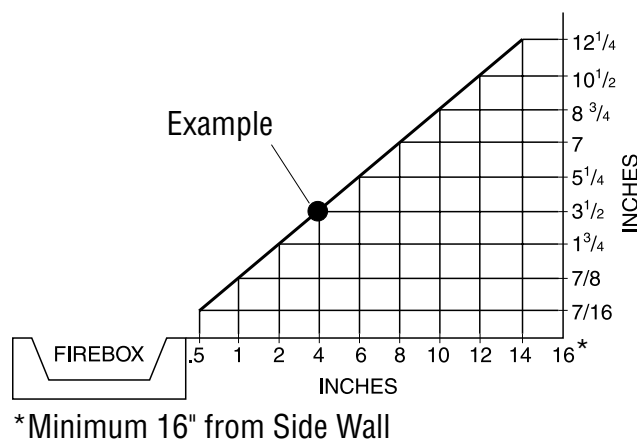

Figure 6 - Minimum Clearance for Combustible to Wall
Minimum Wall and Ceiling Clearances (see Figure 6)
A. Clearances from the side of the fireplace cabinet to any combustible material and wall should follow diagram in Figure 6.